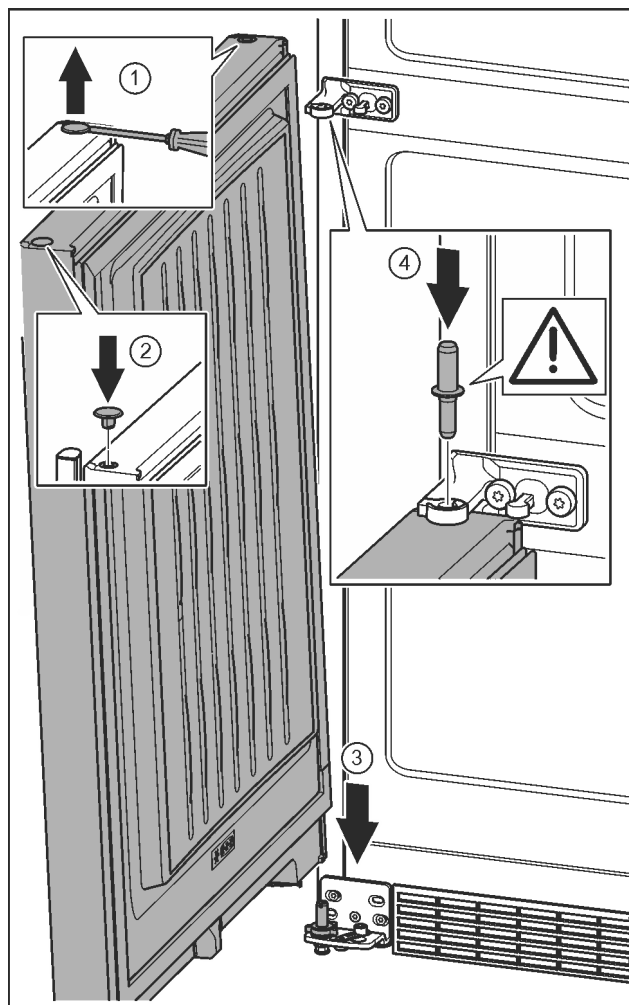

Fig. 22
- ▶ Carefully lift up the plugs with a slotted screwdriver and remove them. *Fig. 22 (1)*
- ▶ Insert the plugs again on the other side of the door. *Fig. 22 (2)*
- ▶ Position the door from above onto the lower bearing pins. *Fig. 22 (3)*
- ▶ Insert the centre bearing pin through the centre bearing bracket into the lower door. Make sure that the catch mechanism is pointing to the rear. *Fig. 22 (4)*